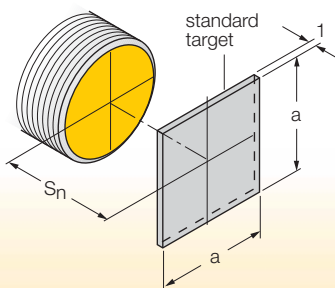

Fig. 4
Nominal switching distance / Rated operating distance S_n (Fig. 4)
Switching frequency (f) (Fig. 4)
- Measured with the standard disc (see Fig. 4)